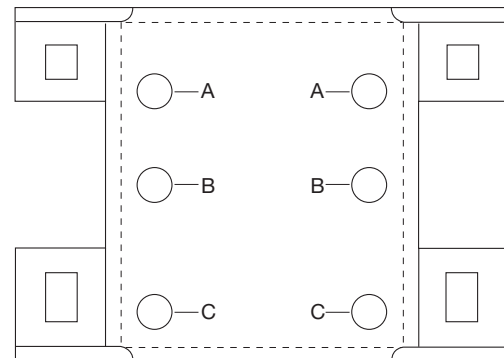

fig. 2b
- Use the lower bracket template (Fig. 2b) to determine the proper mounting location for the air spring. Use the holes marked "A" for mounting. Attach the lower bracket to the air spring assembly using two bolts (F), two lock washers (H), and two flat washers (G). Torque to 20 lb.-ft. (27Nm).